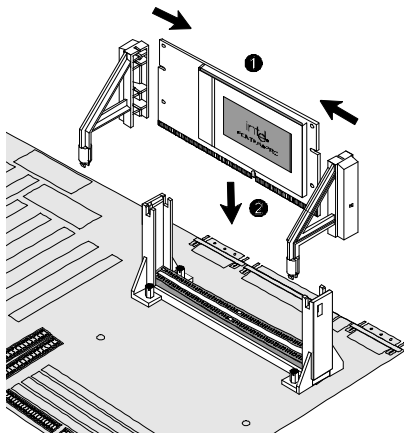

Fig. 2
2. Snap the two retainers onto each side of the card as shown in Fig. 2 -- ① below.
3. Slide the card and the attached retainers down into the retention mechanism until the card is firmly seated in the slot and the two retainers are snapped into the two corresponding holes on the mainboard as shown in Fig.2 -- ② below.